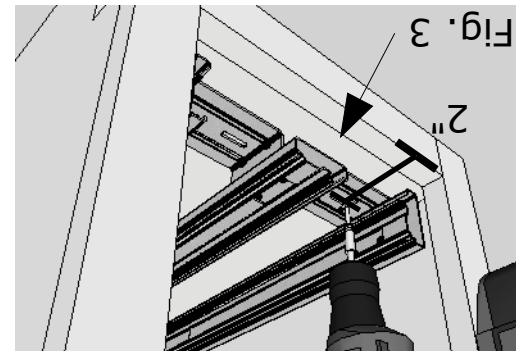

Fig. 3
4. Place cabinet slide assembly inside cabinet. Make sure the front of the slide assembly is toward the front of the cabinet. (NOTE: The rear of the slide assembly has rubber bumpers on the slides.) Center the product left to right in the opening. Position the mounting holes on the slides 2" back from the front of the cabinet. Mount to cabinet floor using (4) #8 pan head screws. See Fig. 3.